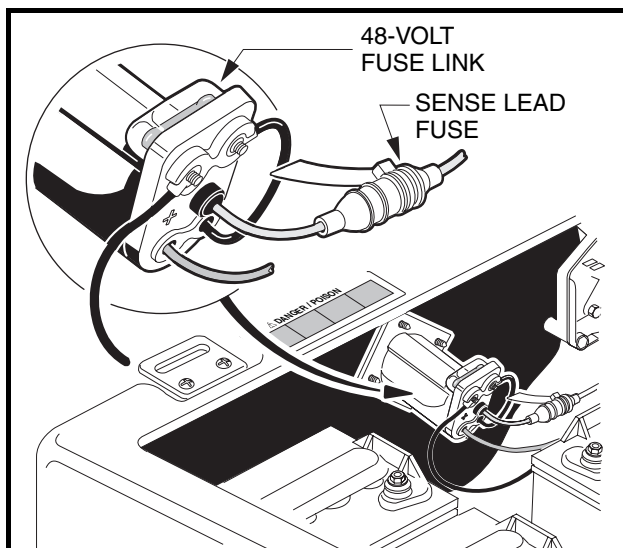

Figure 28 Receptacle Fuse Link
**Villager vehicles:** As an additional feature to protect the batteries and charging circuit from an overload, the electric vehicle is equipped with a receptacle fuse link (**Figure 28**). If the charger does not come on when the vehicle is placed on charge, visually inspect the fuse link. **See following WARNING.**
- Never modify wiring to bypass the gray sense lead fuse (**Figure 28**).